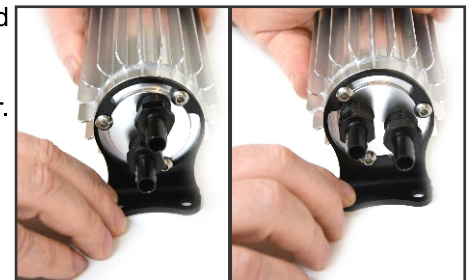

Fig. 3
1. Now Locate the two 3/8" NPT x 3/8" Male Adapter fittings (See Fig. 3)
1. In the Pre-Assembly Cooler instruction line 2, you were told to leave the Button Head Bolts loose. The reason for this is because you can now clock the body of the Heat Sink Cooler so the fittings work best for the install. (See Fig. 3). Tighten the Button Head Bolts when you have found the best rotation of the fittings on the cooler.